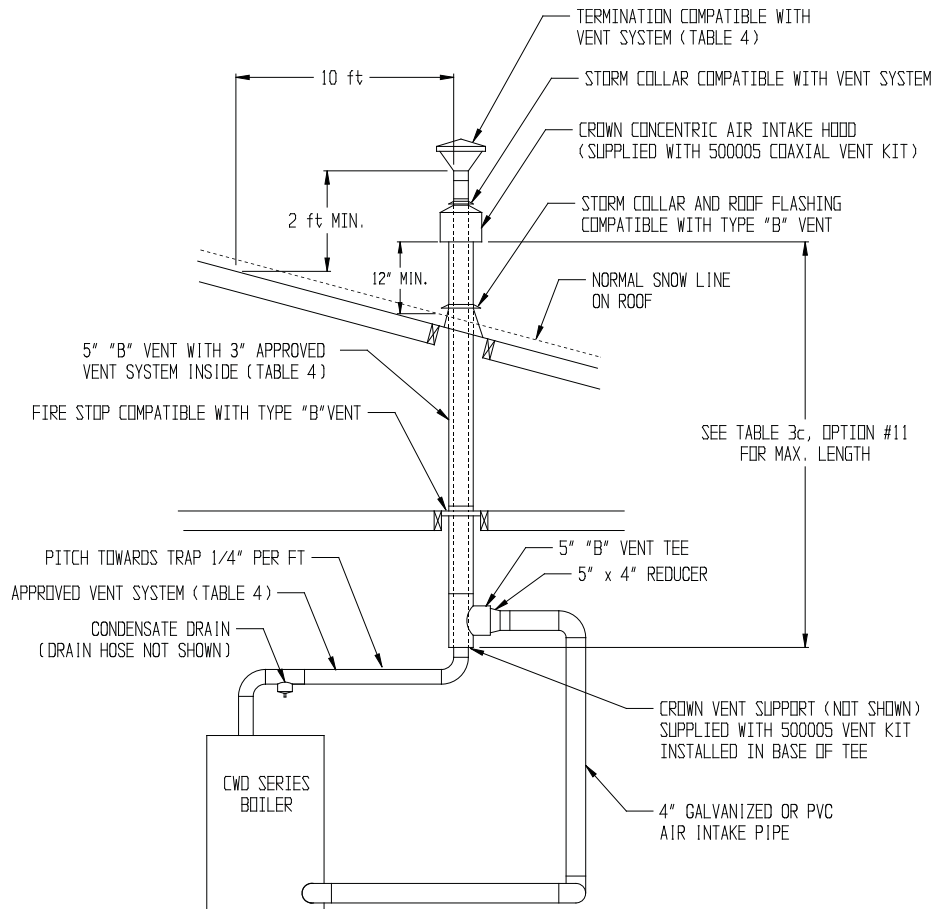

FIGURE 12: VERTICAL COAXIAL DIRECT VENT USING CROWN #500005 VENT KIT (VENT OPTION 11)
- 7) Permitted terminals for Vertical Coaxial Venting (Options 11 - 13) - When the Crown vertical coaxial vent kit is used (Vent Option 11), a cap compatible with the vent system is used (Figure 12, Table 4). The concentric air intake hood supplied in the Crown kit is the air inlet terminal (Figure 12).